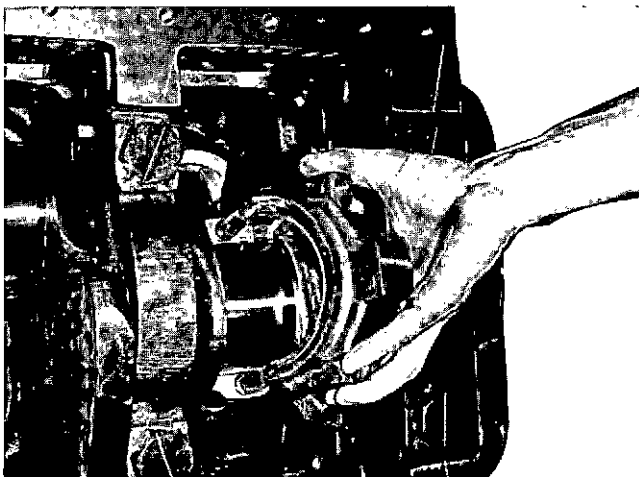

Fig. 14-1-21, V414218. Installing connecting rod bearing and cap
5. Assemble caps and bearing shells over rod bolts (Fig. 14-1-21) and install washers and nuts.